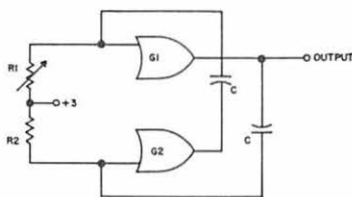
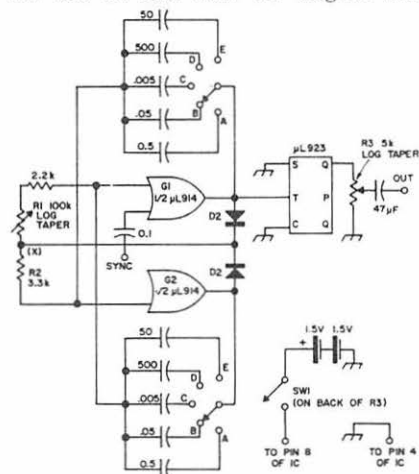

Fig. 1. Simple astable multivibrator circuits.
Fig. 2. Complete square wave generator. Bandswitching capacitors are 10% or better tolerance. Resistors are  $\frac{1}{4}$  watt.
The circuit which generates the basic square wave form is shown in Fig. 1. This is called an astable multivibrator. The gates  $G_1$  and  $G_2$  are from a Fairchild  $\mu L$  914 integrated circuit. It's a dual two-input gate and should be familiar to many 73 readers.
The simple astable multivibrator of Fig. 1 would work nicely if it were not for one big shortcoming. It may cease oscillating when switching frequency ranges or it may fail to start up when turned on. This happens when both gates saturate at the same time. In normal operation,  $G_1$  and  $G_2$  conduct on alternate cycles; that is when  $G_1$  conducts,  $G_2$  is cut off. This process is insured by the capacitors which drive the
The seemingly insurmountable problem was easily overcome by using a couple of diodes. Fig. 2 shows the circuit, known as a self-starting circuit. By referring to Fig. 1 and 6 you'll be able to see how this circuit works. The two diodes are connected to each output and to the junction marked (X). The +3 V for  $R_1$  and  $R_2$  is now supplied through  $D_1$  and  $D_2$  from the collector of either gate. Remember that when a gate is cut off the collector goes positive and +3 V appears at junction (X). The circuit will operate properly as long as at least one gate is cut off. Now if both gates should happen to saturate at the same time when switching capacitors, the positive voltage at (X) will disappear, tending to cut off the gates immediately. In other words, the diodes, which form the OR gate, will not allow the multivibrator to lock in a saturated condition. Proper operation will begin when the next capacitor is switched in. We now have